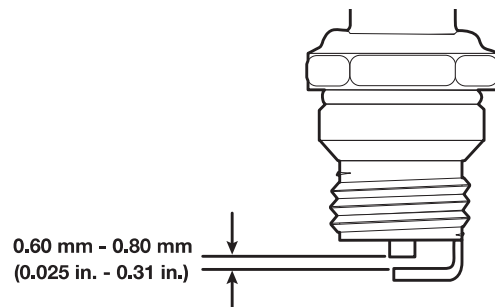

Fig. 25
4. Use a feeler gauge to set the air gap at 0.6 mm - 0.8 mm (0.025 in. - 0.31 in.) (Fig. 25).